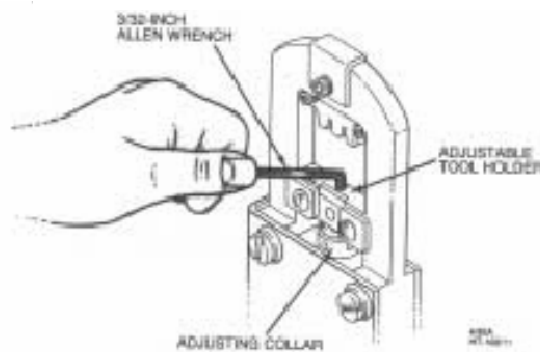

Figure 11
2. Insert a 3/32-inch Allen wrench into the hole in the adjustable tool holder and into the socket head setscrew (see Figure 11). Turn the setscrew ¼ turn counterclockwise to unlock the adjusting collar.